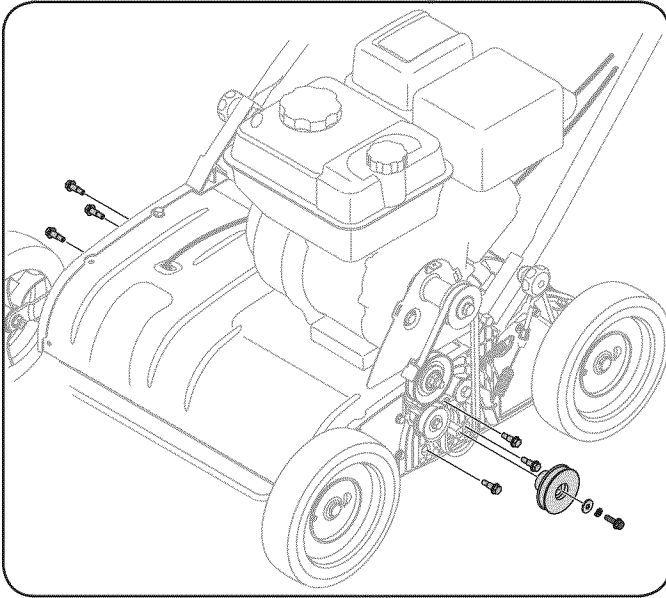

Figure 18
2. Remove the bottom pulley. See Figure 18.